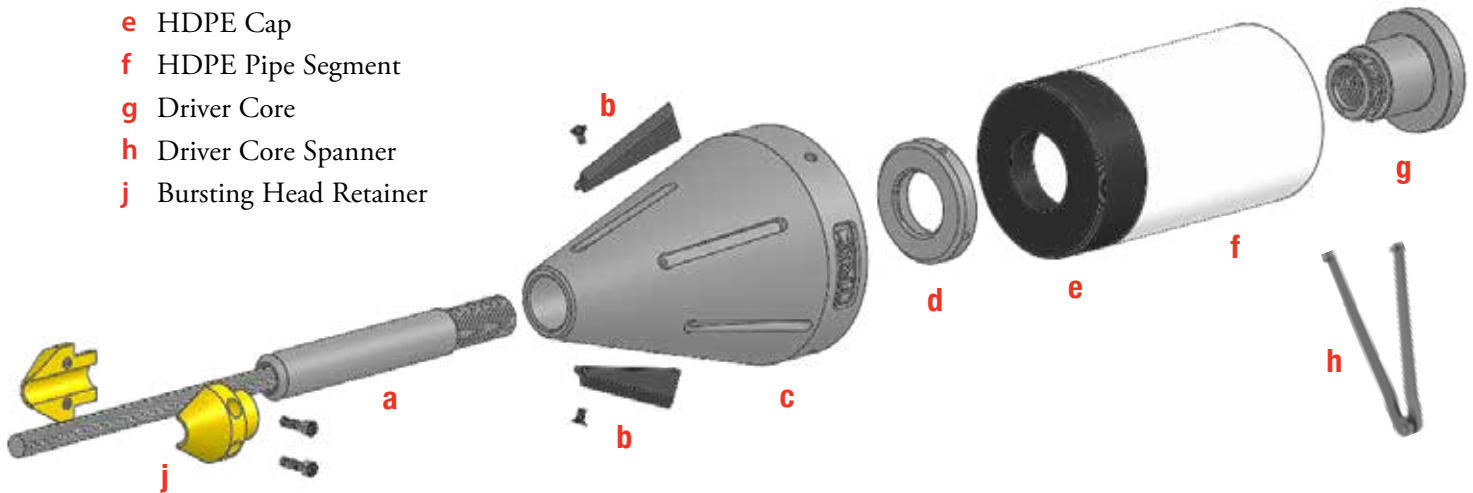
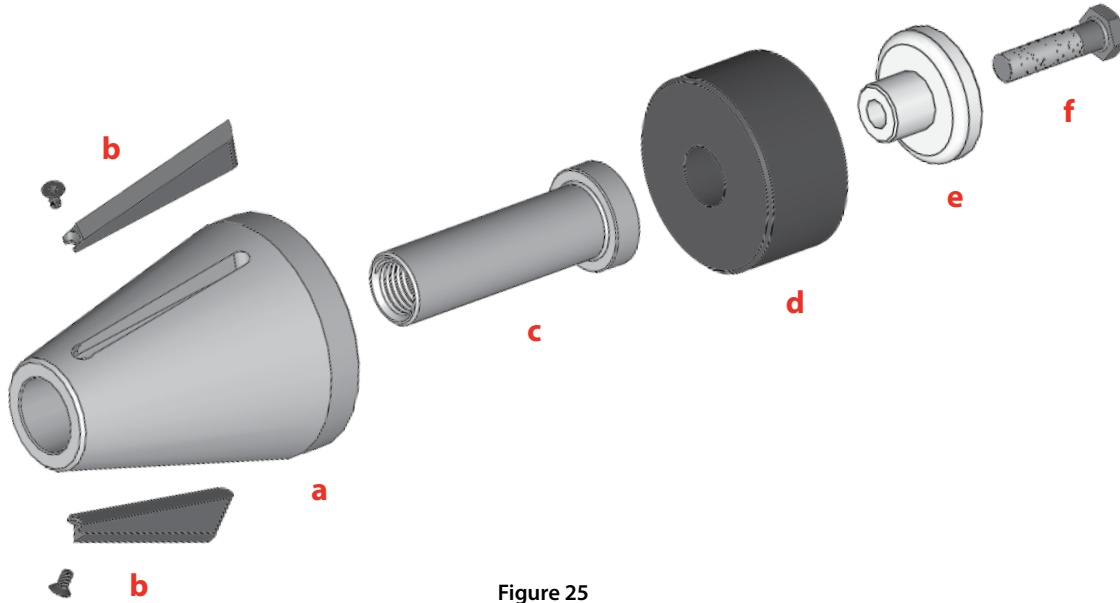
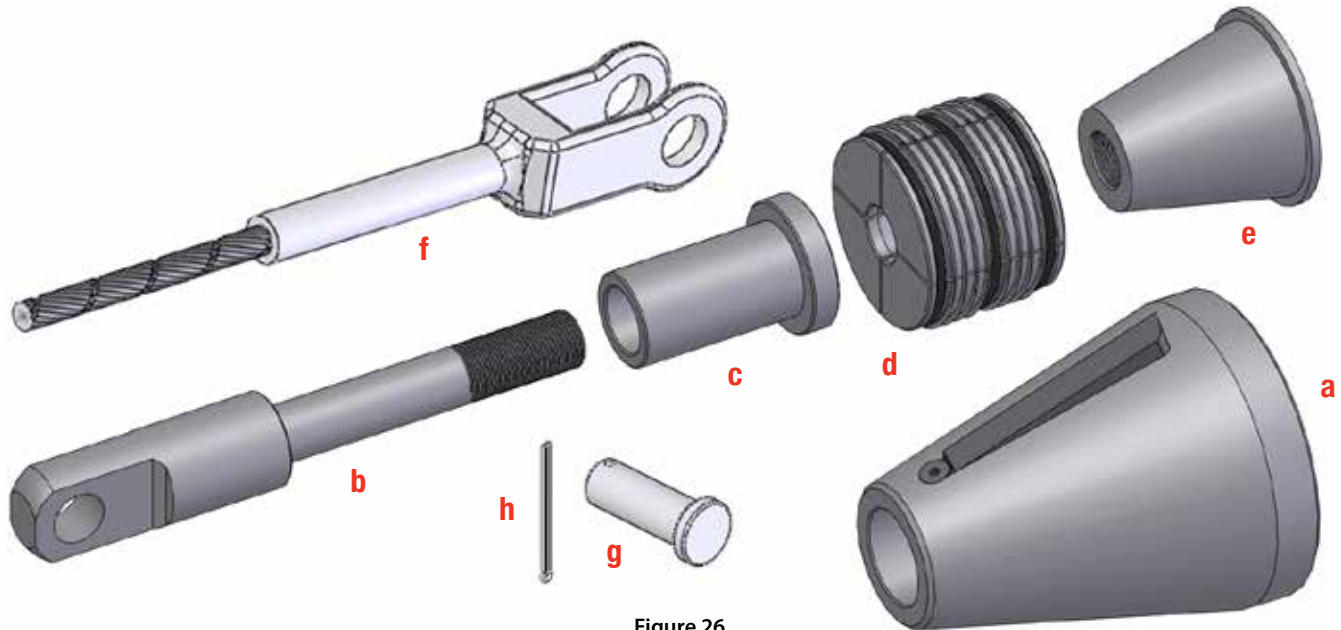

Figure 19
Figure 25
Figure 26
*Threaded stud pulling cores—(c) in Figure 25 and (g) in Figures 19, 20, 21, and 23—are for cable diameters 7/8”, 1.125”, and 1.25” (22mm, 28mm, and 32mm). The P51 can also pull 3/4” cable, which has an open socket or clevis termination to connect to a pulling eye core. See items (b) and (f) in Figure 26 on page 40.*
Cut a clean, straight edge on the end of the pipe to be attached. You can also trim the pipe end in a fusion machine using the pipe facing tool, and then use the fusion jig to hold the pipe while attaching the bursting head assembly (See Figures 27 and 28). Grease the surface of the expander cone (**e**), and the pulling core shaft threads (**b**). (See Figure 26 on page 40.) Insert the loosely assembled pulling core (parts **b**, **c**, **d**, and **e**) into the pipe end, just enough to cover the gripper assembly (**d**), leaving the core spacer (**c**) just outside the end of the pipe (See Figure 27 on page 41). Then turn the pulling core COUNTERCLOCKWISE until the gripper